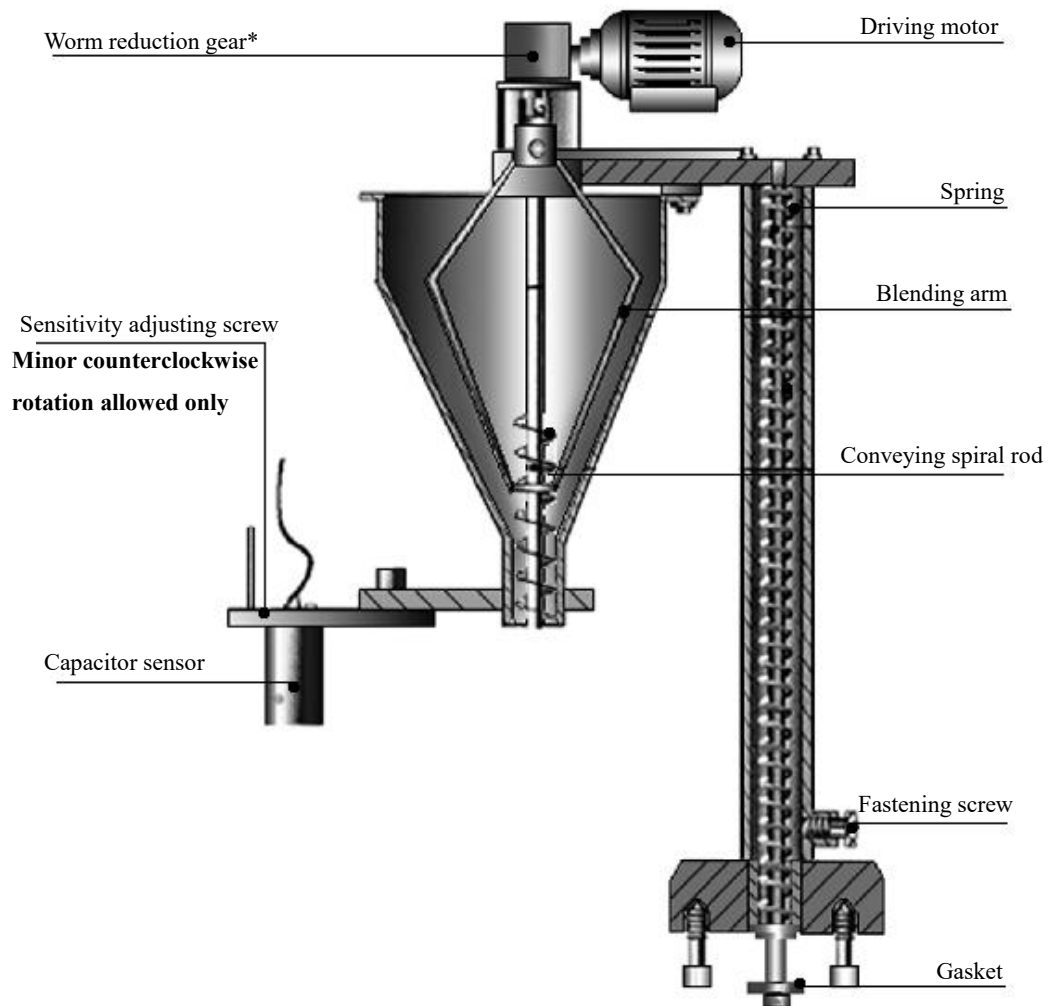

Fig. 9 Feeding Mechanism
### **5.1.3 Replace dosing disk and filling rod (refer to Fig. 9, 10, 11)**
- 5.1.3.1 Loosen fastening screws and raise powder hopper by the resilience of spring; (refer to Fig. 9)